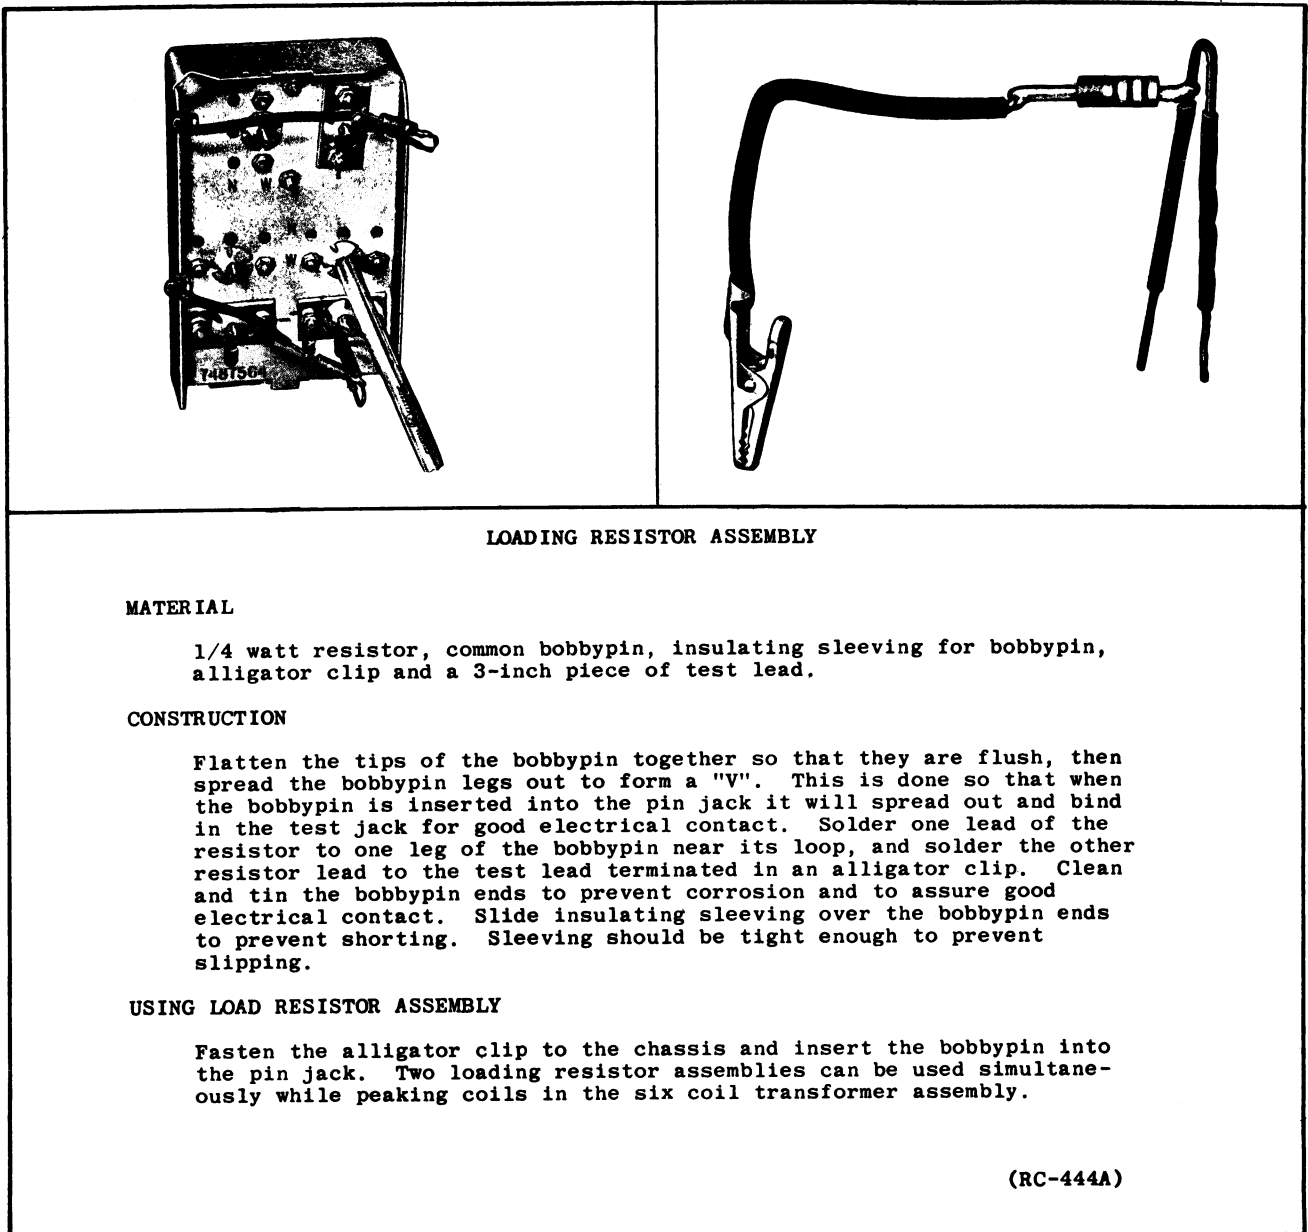
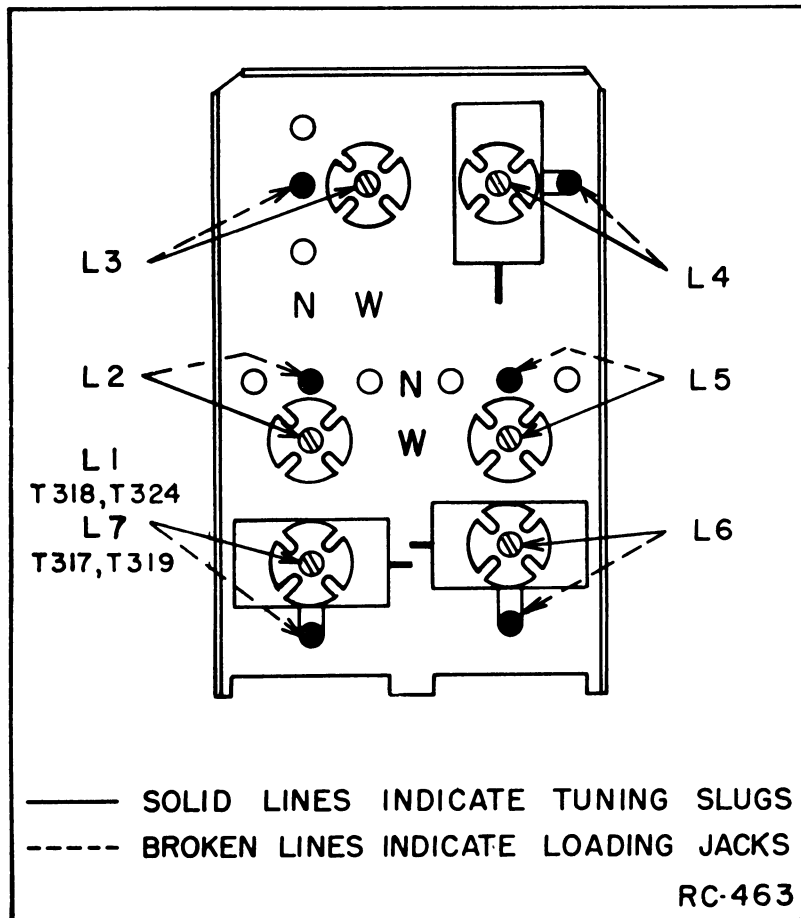

FIG. 1 - Load Resistor Assembly
FIG. 2 Location of Tuning Slugs and Jacks, 290-kc IF Transformers - T317, T318, T319 and T324
4. Two load resistor assemblies made up as shown in Fig. 1 for resistor loading method (22,000-ohm resistors)
3. Refer to Fig. 1 for proper use of load resistors and Fig. 2 for location of coils and loading jacks.
1. Locate tuning slugs and pin jacks as shown on Fig. 2.